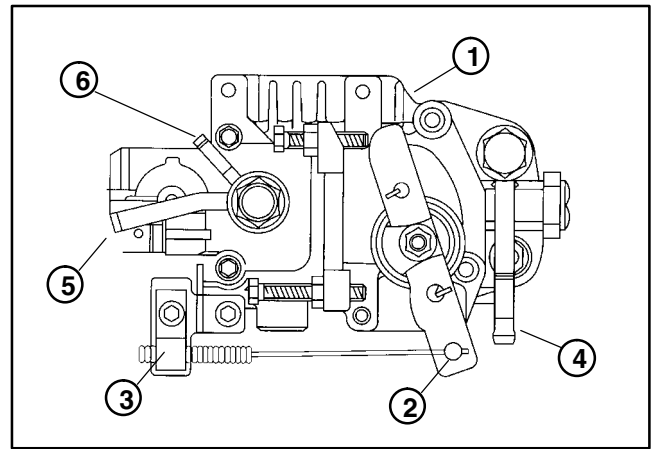

Figure 12
11. Remove throttle cable from injector pump (Fig. 12).
B. At injector pump, loosen hose clamp and disconnect fuel hose from the fuel filter/water separator (Fig. 12). Plug hose to prevent leakage and contamination.
C. At injector pump, loosen hose clamp and disconnect the return to tank fuel hose (Fig. 12). Plug hose to prevent leakage and contamination.
A. Connect return to tank fuel hose to the injector pump fitting (Fig. 12). Tighten hose clamp.
B. Connect fuel hose from the fuel filter/water separator (Fig. 12). Tighten hose clamp.